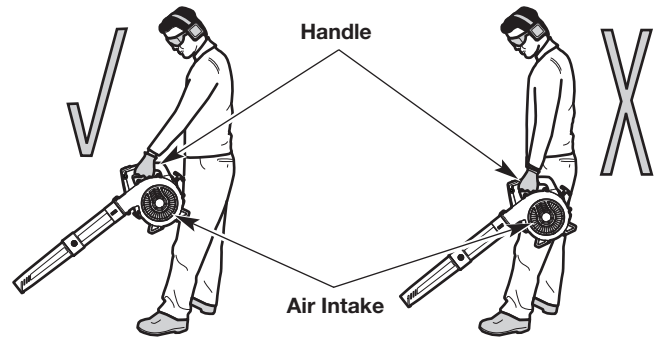

Fig. 15
- Stand in the operating position (Fig. 15). Stand up straight. Do not bend over.
- Hold the unit in front of, and away from, your body (Fig. 15).
**WARNING:** To prevent serious personal injury or damage to the unit, **DO NOT** hold the unit at your side (Fig. 15). The engine may be extremely hot. **DO NOT** block the air intake.